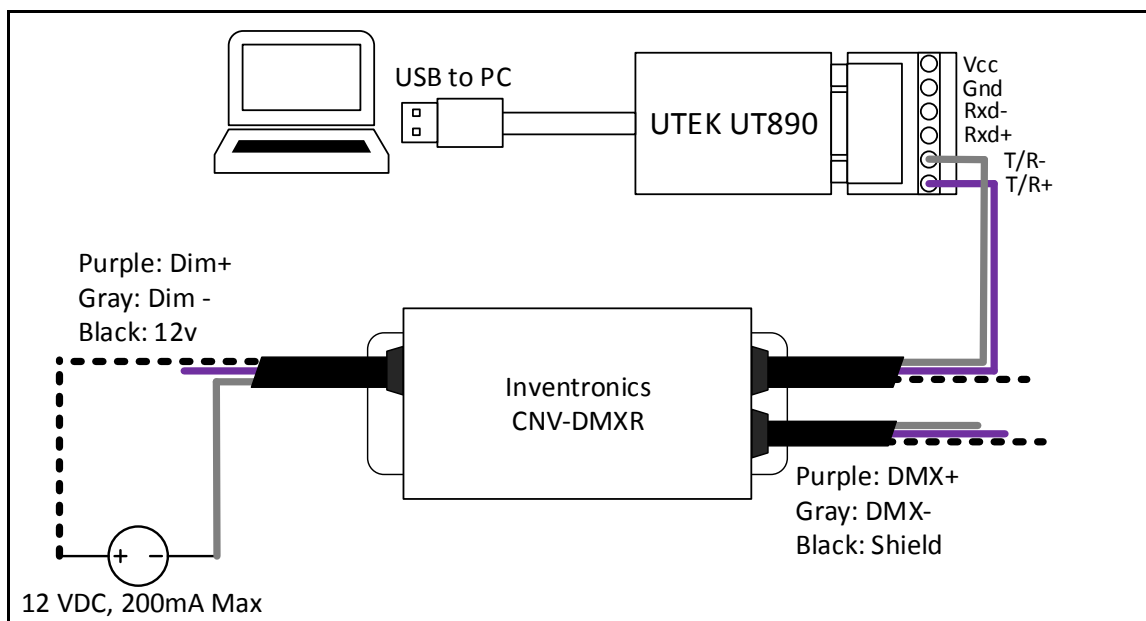

Figure 1: Wiring Diagram
A wiring diagram for connections required to program the CNV-DMXR can be seen below in Figure 1.
- Connection between CNV-DMXR and the UT890 (See Figure 1)